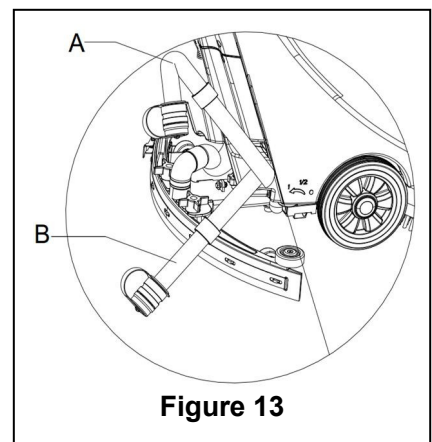

Figure 13
2. By using the squeegee handle (14), lift the squeegee.
4. Grasp the handlebar (2) and gently incline the machine backward until the guide wheel touches the floor. (For docking of the machine please refer to the procedures in the stopping of the machine section.)
5. Take off the draining hose from the fixation clip, bend the top end of draining hose (as shown in **A, Figure 13**), and then open the cover of draining hose, lower draining hose to a low level or on the ground to drain the water. Alternatively, directly place draining hose to a low position or on the ground to make the water outlet face downward (as shown in **B, Figure 13**), and then twist open the water draining lid to drain off the wastewater in the tank. After draining is completed, use pure water to cleanse the inside of recovery tank.
When draining the wastewater, the vacuum tube for waste must be folded or lowered to a lower position (as shown in Figure 13 A or B), and then open the lid of the vacuum tube for waste to drain the water. Do not make the outlet of the vacuum tube for waste face upward to drain the water vertically. This is to avoid wastewater spilling onto the operator.